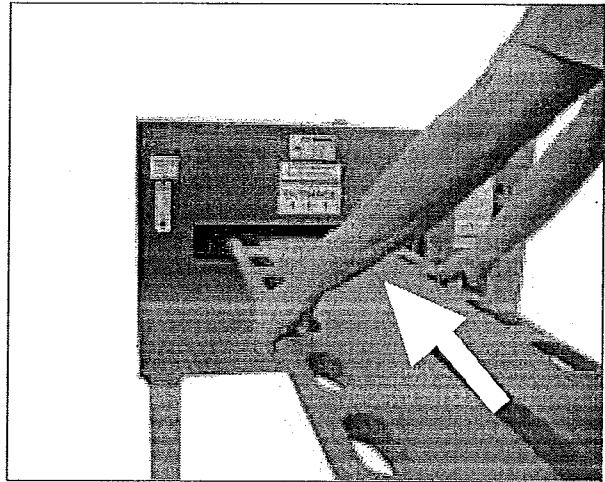

Figure 5 - Pushing a Backboard Into the Entrance Portal
6. Grasp the sides of the backboard with both hands and slowly push it into the entrance portal (Figure 5).